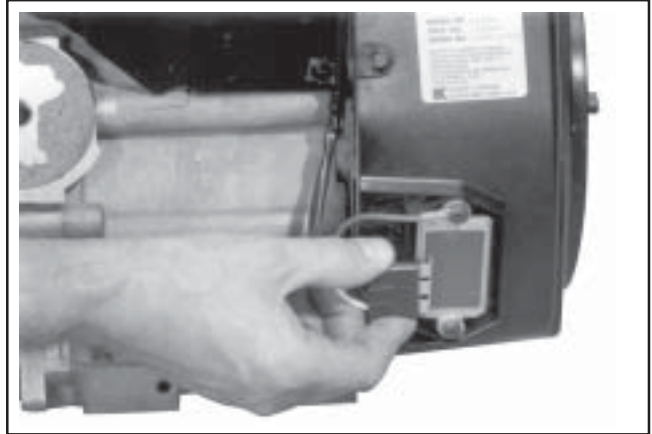

Figure 9-31. Disconnecting Plug from Rectifier-Regulator.
1. Disconnect the plug from the rectifier-regulator on the blower housing. See Figure 9-31.